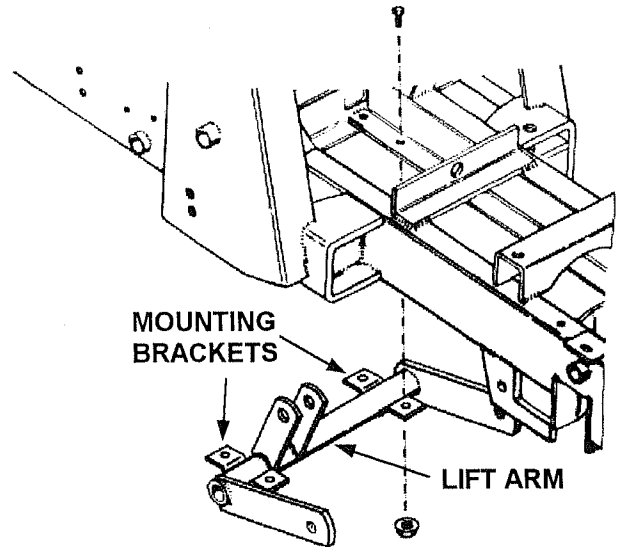

FIGURE 5
5. (See figure 5) Use four 3/8" x 1" bolts and locking flange nuts to attach mounting brackets and lift arm to loader frame.